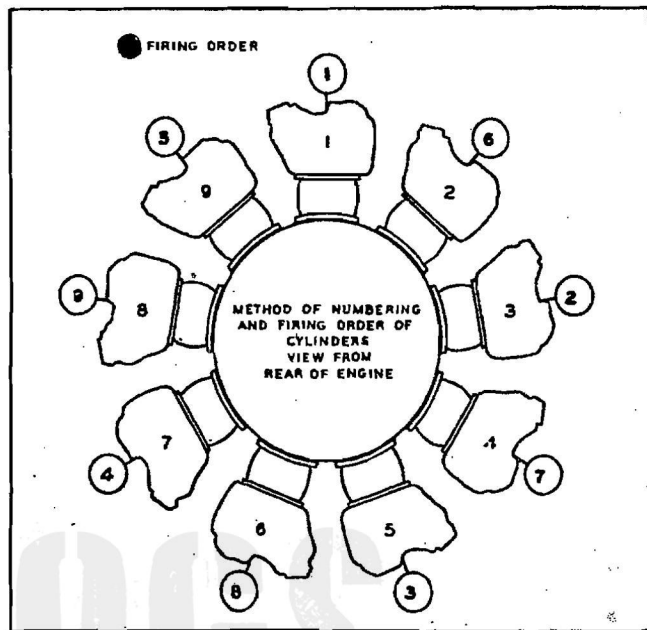

Figure 4—Cylinder Numbering Diagram
f. The cylinders are numbered consecutively in the direction of crankshaft rotation; that is, clockwise as viewed from the rear of the engine. The top cylinder is designated as cylinder No. 1. See figure 4.